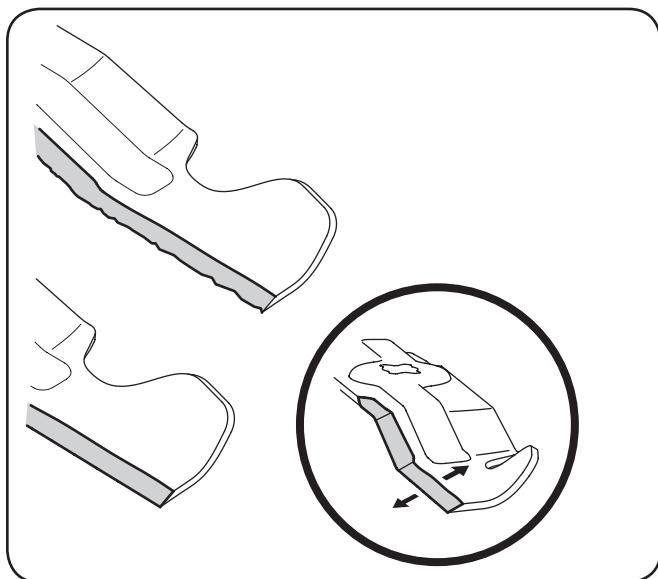

Figure 7-10
4. To properly sharpen the cutting blades, remove equal amounts of metal from both ends of the blades along the cutting edges, parallel to the trailing edge, at a 25°-30° angle. Always grind each cutting blade edge equally to maintain proper blade balance. See Figure 7-10.